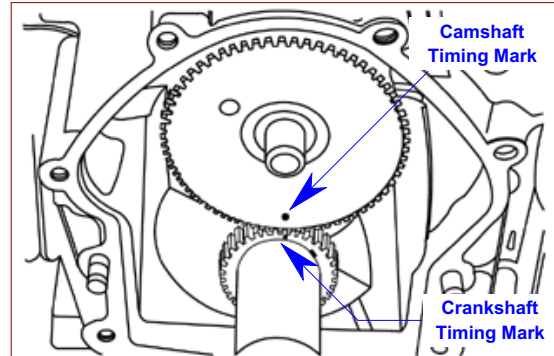

Fig. 1 - Install Crankshaft - Plain Bearing Models
3. Align timing marks and install camshaft, Fig. 1.